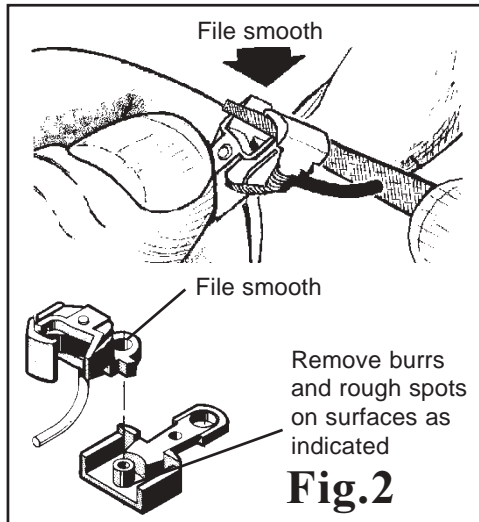

Fig.2
1. **IMPORTANT:** Before assembling Couplers, check arrow-marked areas shown in Fig.2 for burrs and rough spots.
2. **Burnish** the surfaces indicated by arrows in Fig. 2 with **Kadee® #231 Greas-em**, a fine, dry lubricant specially suited for Kadee® Couplers. **DO NOT** skimp on steps 1 and 2, they are mandatory for smooth, trouble-free, Coupler performance.